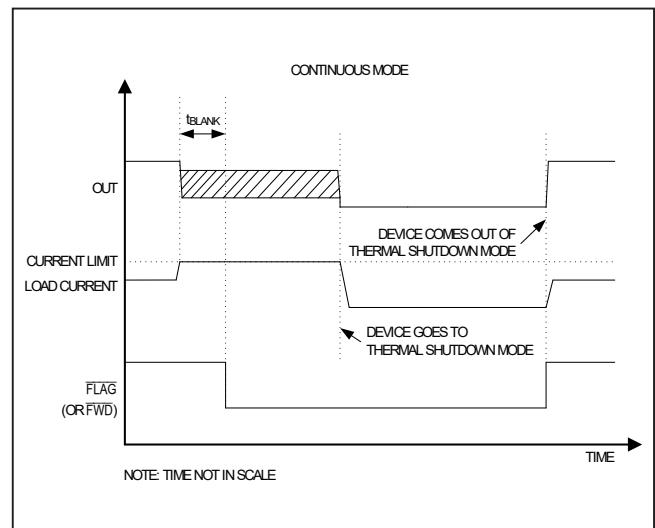
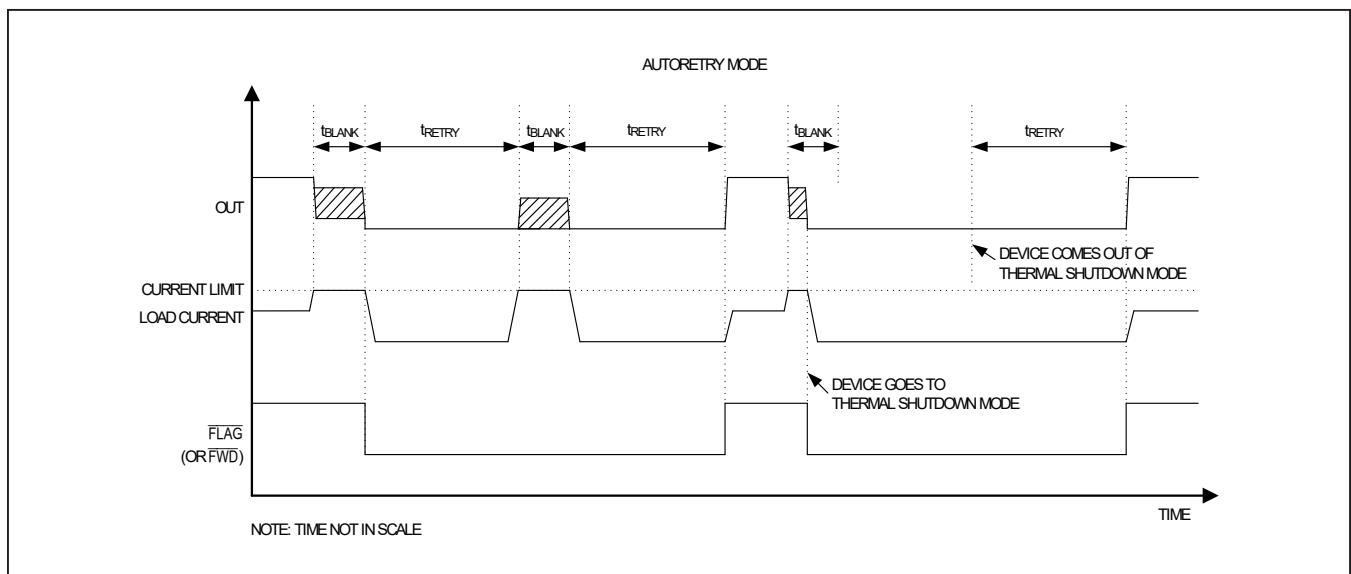
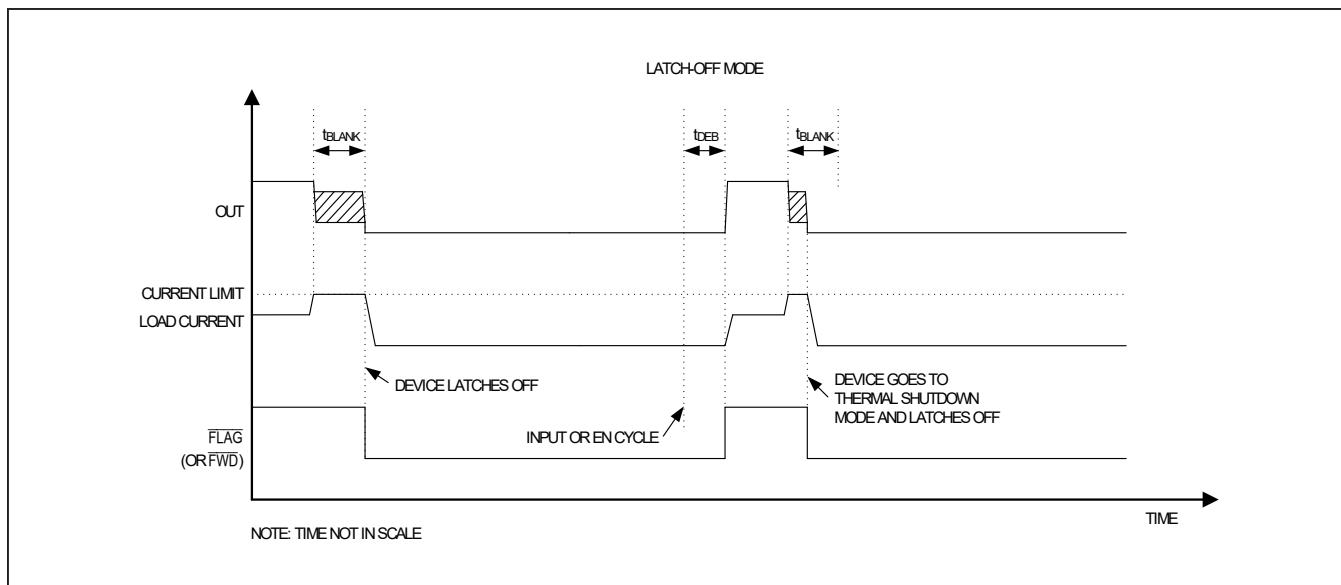

Figure 4. Continuous Fault-Timing Diagram
Figure 3. Autoretry Fault-Timing Diagram
Figure 5. Latch-Off Fault-Timing Diagram
With a 40ms (typ) t_{BLANK} and 600ms (typ) t_{RETRY} , the duty cycle is 6.25%, resulting in a 93.75% power reduction when compared to the switch being on the entire time. Figure 3 depicts typical behavior in the autoretry current-limit mode.
In continuous current-limit mode, when current through the device reaches the current limit threshold, the device limits output current to the programmed current limit. The FLAG (or FWD) pin asserts if overcurrent condition is present for t_{BLANK} and deasserts when the overload condition is removed. Figure 4 depicts typical behavior in the continuous current-limit mode.
In latch-off current-limit mode, when current through the device reaches the current-limit threshold, the t_{BLANK} timer begins counting. The FLAG (or FWD) pin asserts if an overcurrent condition is present for t_{BLANK} . The timer resets when the overcurrent condition disappears before t_{BLANK} has elapsed. The switch turns off and stays off if the overcurrent condition continues beyond t_{BLANK} . To reset the switch, either toggle the control logic (EN) or cycle the input voltage. Figure 5 depicts typical behavior in latch-off current-limit mode.
The thermal limit behaves similarly to the current limit. In autoretry mode, the thermal limit works with the autoretry timer. When the junction temperature falls below the falling thermal-shutdown threshold, devices turn on after the retry time. In latch-off mode, the devices latch off until power or EN is cycled. In continuous mode, the devices only disable while the temperature is over the limit. There is no blanking time for thermal protection. Figure 3, Figure 4, and Figure 5 depict typical behavior under different current limit modes.